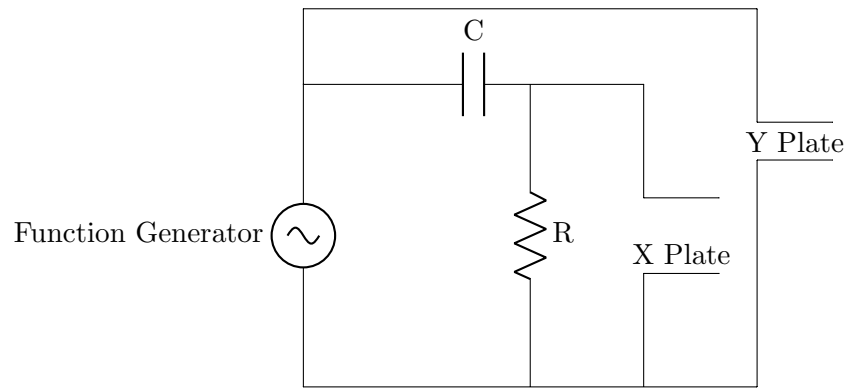

Figure 4.1: Circuit diagram for phase measurement.
2. Use one function generator only and connect its output to the R-C combination connected in series across its output as shown in figure 4.1. The output from the function generator is connected to channel 1 and the output across the resistor is connected to channel 2 .